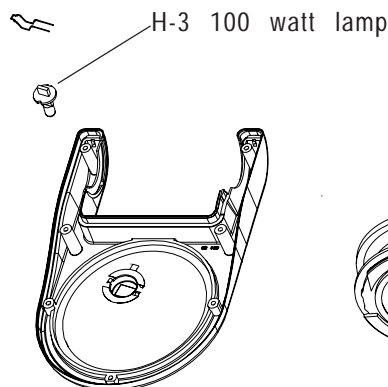

Figure 6
5. Replace lamp (H-3 100W) as shown in Figure 6.